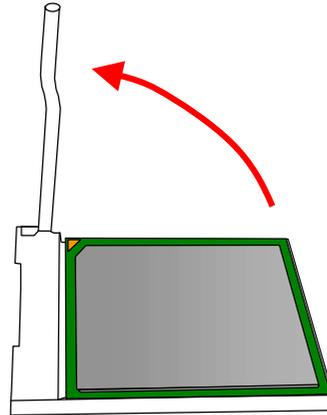

Figure 2-6 Free the CPU
4. To remove the existing CPU, lift the socket arm up to the vertical position. (Figure 2-6)